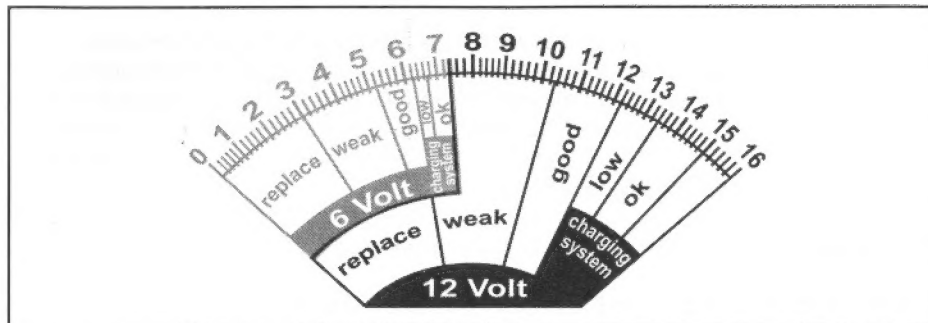

Figure 2. 12 Volt Battery Test Results
4. Hold the LOAD SWITCH and read the meter (See Figures 2 or 3).